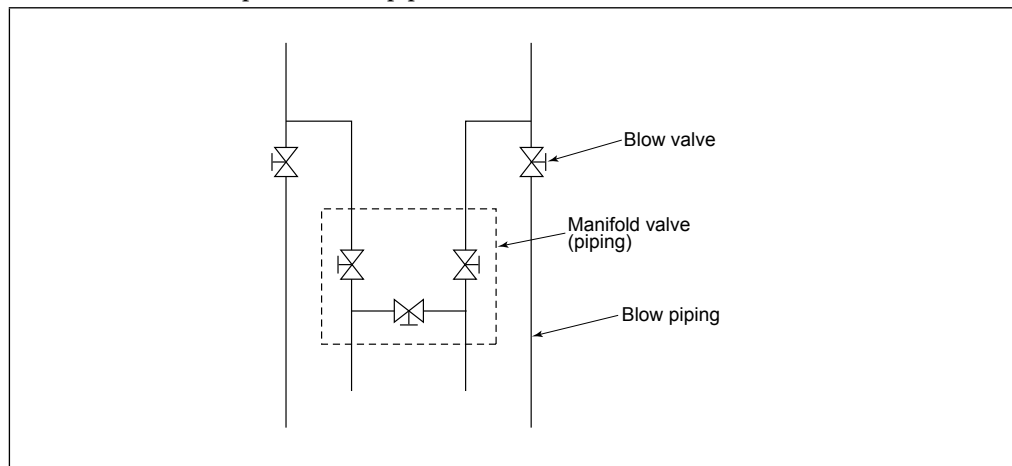

Fig. 5-8. Blow piping
- (2) Ensure that the equalizer valve is closed.
- (3) Close the stop valve on the low pressure side tapping pipe and that of the low pressure side of the manifold valve.
- (4) Slowly open the both side vent plugs to release pressure, then fully close them.
- (5) Open the stop valve on the high pressure side of the manifold valve and that on the high pressure side tapping pipe.
- (6) Open the equalizer and blow the piping via the high pressure side vent plug.
- (7) Close the equalizer valve, the stop valve of the high pressure side of the manifold valve, and that of the high pressure side tapping pipe.
- (8) Open the stop valve on the low pressure side of the manifold valve and that on the low pressure side tapping pipe.
- (9) Open the equalizer valve and blow the piping from the low pressure side vent hole.
- (10) Close all valves.
- (11) Start operating the instrument following the procedure explained in the “Chapter 6 : Operation Method”.
**When blow pipes are provided (See Fig. 5-8. in “Chapter 5 : Installation”)**
- (1) Close the stop valve on the high pressure side of the manifold valve.
- (2) Close the stop valve on the low pressure side of the manifold valve.
- (3) Slowly open the blow valves on both high and low pressure sides to drain out sediment or any other entrapped substances.
- (4) Close the blow valves on both the high and low pressure sides.
- (5) Open the stop valve on the low pressure side of the manifold valve.
- (6) Open the stop valve on the high pressure side of the manifold valve.